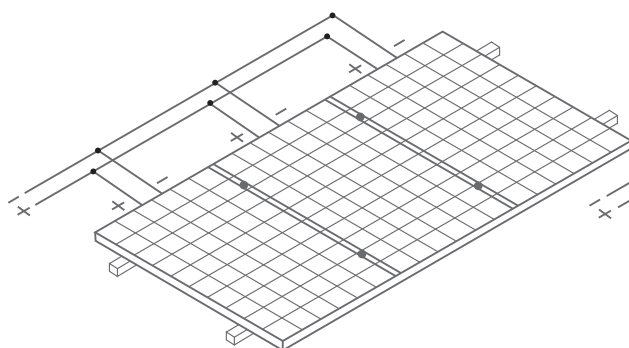

Figure 6
- When connected in series, the maximum number of the Modules are determined by the system design, inverter type and environment. ( shown in Figure 6).